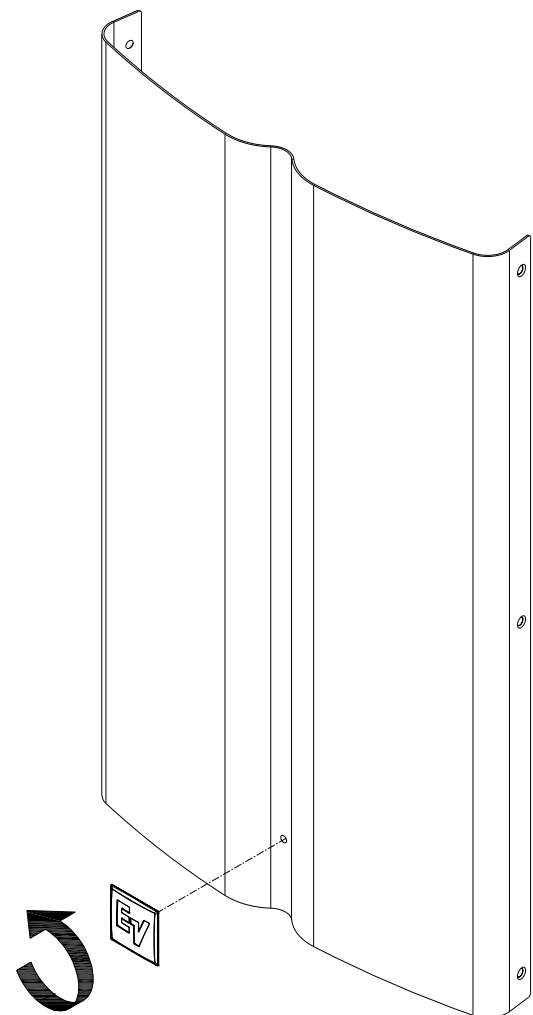

Figure 12:
3. Rotate the logo and spacer (in increments of 90°) to the desired orientation (Figure 12).